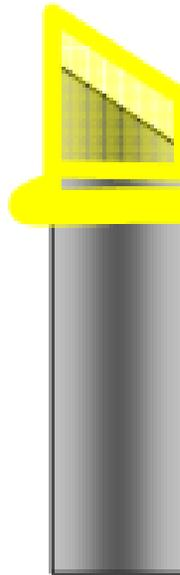

Figure 2
- b) Place the WeatherCap on the pipe above the retaining collar. Slide the WeatherCap down onto the pipe about 1 inch. (see figure 2)
- a) Place the WeatherCap on the pipe. Slide the WeatherCap down onto the pipe about 1 inch. (see figure 2)